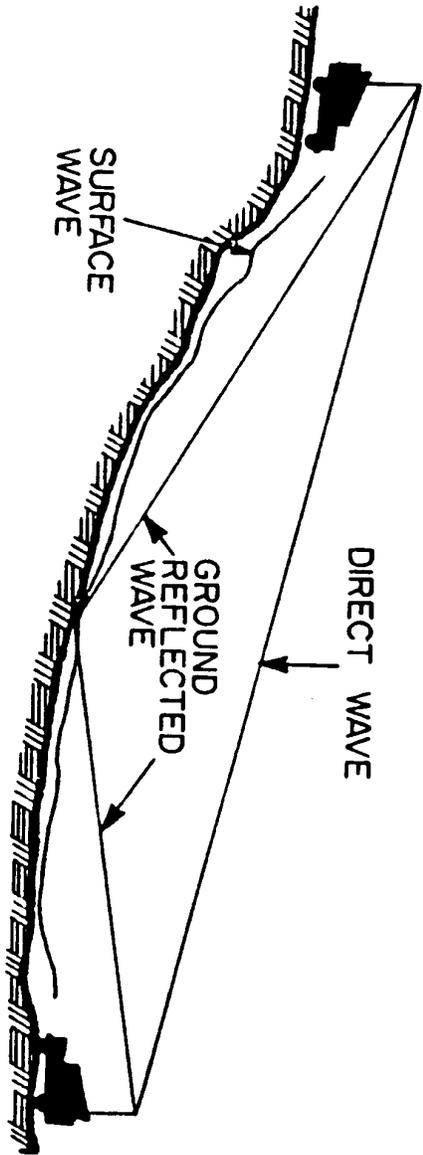
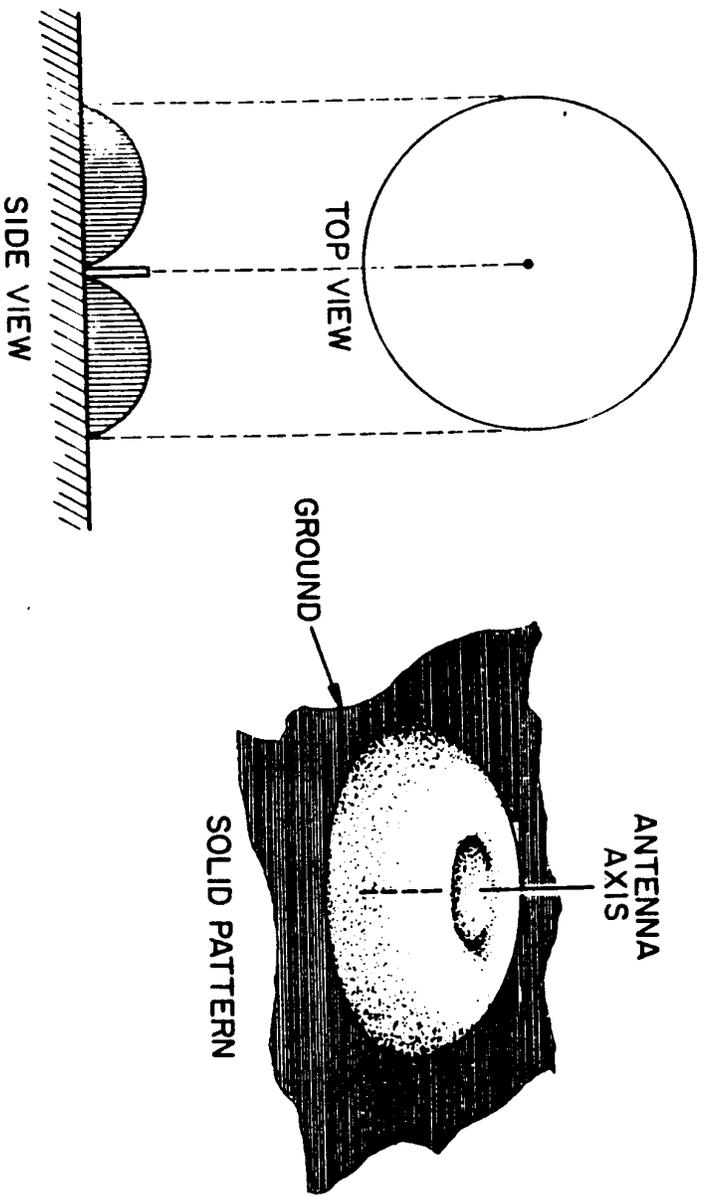

Figure 2 Groundwave components.
Figure 3 Radiation pattern of a quarter-wave vertical whip antenna.
2 shows possible radio paths between two stations located in the Brigade area of operations. It is assumed that most combat units in the Brigade will be located within a maximum distance of 400 miles from each other for purposes of this SOP/OC. Circuits of greater distances (reach back) will be covered under other sections of this SOP/OC. Fig 2 shows three possible low angle radio paths located along or near the surface of the earth. These paths are called ground-wave paths because they are close to the earth's surface or in contact with it. They consist of the (1) direct wave path. The direct wave consists of radio frequency energy that travels through the atmosphere and near the earth directly from one antenna to another. This is called the line of sight (LOS) mode of propagation. Maximum LOS distance depends upon the height of the antenna above the ground and whether or not the path is obstructed by terrain that will block radio signals. On flat ground, direct wave paths suitable for THFRS communications can be expected out to 6-8 miles before the curve of the earth blocks the signals. Direct wave communications can go much further if stations are located high on hilltops with no intervening obstructions so control of high ground and antenna height is important when using direct wave communications. (2) The ground reflected path like the direct path travels through the atmosphere but due to the lower "take off" angles from the transmitting antenna, the signal energy is reflected off the earth while traveling from the transmitting antenna to the receiving antenna. Depending upon the composition of the ground at the reflecting point the reflected energy can be considerably reduced when it arrives at the receiving antenna. Signals reflected off seawater lose almost no energy while signals reflected off a sandy desert become quite weak. When summed together the direct wave and the reflected wave are referred to as the space wave. As the two combine, they can result in either a stronger or weaker total signal depending upon the timing difference of the two signals as they arrive. The difference in signal phasing is caused by the longer distance traveled by reflected wave. Space wave signals will usually not be the predominate mode of communications in the BCT. The (3) surface wave path is the transmitted radio energy that travels along the boundary between the atmosphere and the earth's surface and is in actual contact with the earth's surface. The surface wave is greatly affected by the electrical conductivity of the earth in the path of propagation. With a good conductor such as seawater surface wave communications out to 1 00+ miles are possible. With a poor surface such as sand or frozen ground surface wave communications are greatly reduced. Surface wave signals are also greatly reduced by heavy vegetation or mountainous terrain. Surface wave signals can be made stronger over poor ground by using techniques that improve the conductivity of the earth near the antenna. Most HF ground-wave communications within the BCT will utilize surface wave signals. Space wave communications will predominate only when communicating from high ground to other high ground locations along the line of sight (LOS). Vertical monopole (whip) man-pack and vehicle antennas of various lengths are the antennas provided to produce the low take off angle energy needed to generate ground wave signals. Figure 3 shows the antenna energy pattern of the vertical monopole (whip) antenna. Note that the signal is along the surface of the earth and on the lower angles. There is much less energy on the higher angles and none directly overhead (vertical angles). The pattern resembles a doughnut so operationally, it can be very difficult to communicate with aircraft that are directly overhead while you can talk to aircraft many miles away that are receiving low angle energy from a vertical antenna.